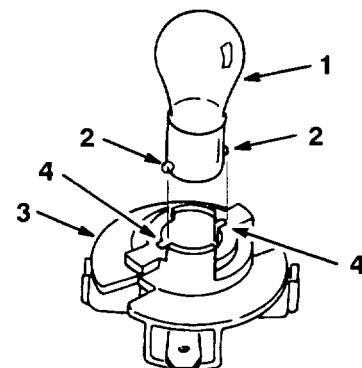

Figure 18
1. The bulb has metal pins on the side of its base. Align the pins with the slots in the bulb holder and insert the base into the holder (Fig. 18). Push and rotate the bulb clockwise until it stops.
4. Push and rotate the bulb counterclockwise until it stops (approx. 1/4 turn) and remove bulb from the bulb holder (Fig. 18).